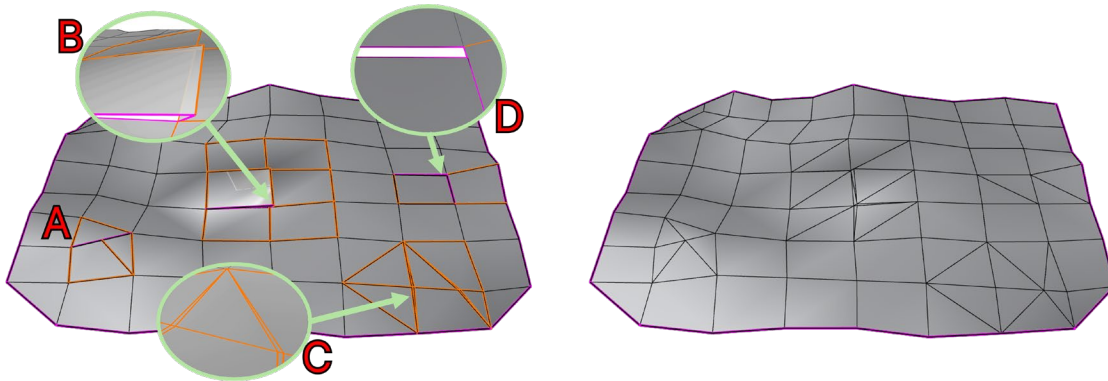

Figure 29: GHeal's function *FixClashingFaces* resolving various problems within a surface mesh.
In Figure 29, the left image shows an example of 4 different types of issues identified as clashing faces: nonconformal connection between faces (A), open Z-fold (B), sliver faces (C), and sliver holes (D). These issues are resolved by **GHeal** and the results are shown in the right image.